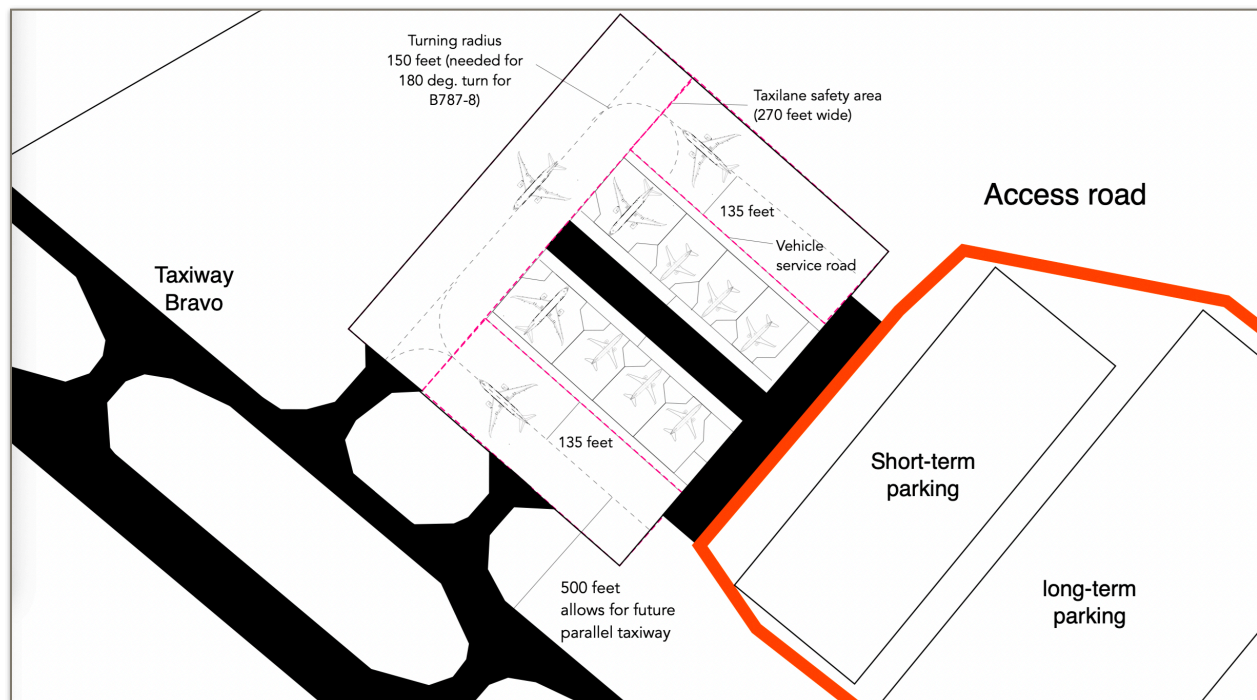

Figure 3. Terminal Configuration with Eight Gates. Pier-Finger Terminal is 750 feet long.
- d) Locate five right-angle runway exits (as shown in Figure 3) to efficiently move landing aircraft on runway 6 to the airport terminal. The aircraft fleet mix is given on Table 2. Explain your rationale for selecting the runway exit locations.
Refer to the airport configuration shown in Figure 3 to answer the following questions.